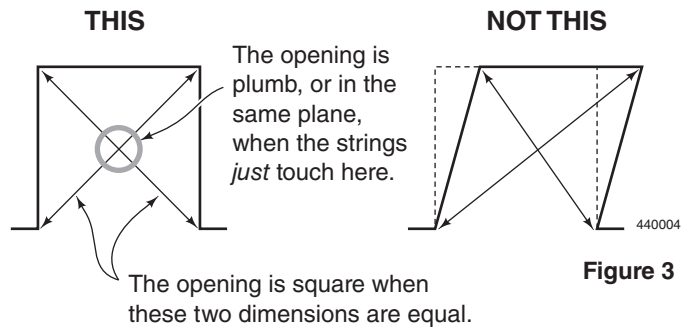
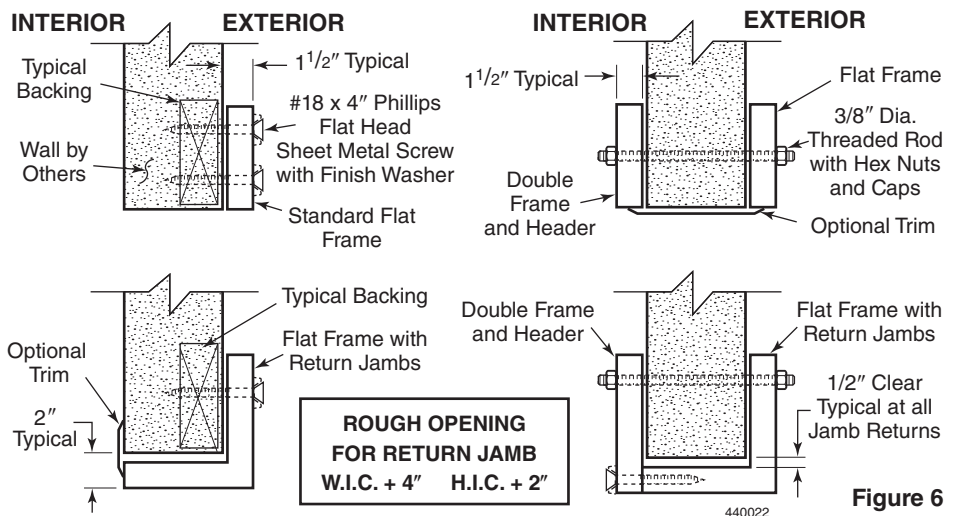
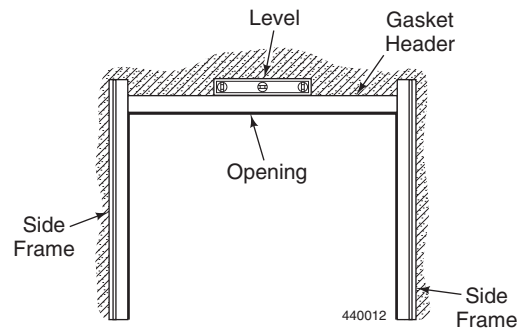

Figure 3
Figure 6
Figure 8
1. Measure to determine that the door opening is square. To verify that the opening and wall are plumb, stretch two strings diagonally from corner to corner. The strings should *just touch* at the center. To correct for any out-of-square or out-of-plumb situation, shim the Side Frame and Door Header at installation. See *Install Side Frames* section. Any fasteners for *existing* jambs or headers must be countersunk flush or below the surface. See *Fig. 3*.
- Be certain the Gasket Header will fit flush between the Side Frames. Attach the frames to the wall with #18 x 4" Phillips flat head sheet metal screws or 3/8" threaded rod, as necessary. See *Figure 6*. Verify that the frames are still plumb and square to the door opening. Verify with the string method previously described and shim as necessary. See *Fig. 3*.
- Mount the Gasket Header above the door opening. See *Figure 8*. The Header should be level and flush with the opening as well as flush with the Side Frames. Anchor the Gasket Header with #18 x 4" Phillips flat head sheet metal screws or 3/8" threaded rod, as necessary. See *Figure 6*.
- Center the Spring Header assembly level and flush with the Side Frame tops. Fasten the Header with #18 x 4" Phillips flat head sheet metal screws or 3/8" threaded rod, as necessary. See *Figures 6 and 9*.